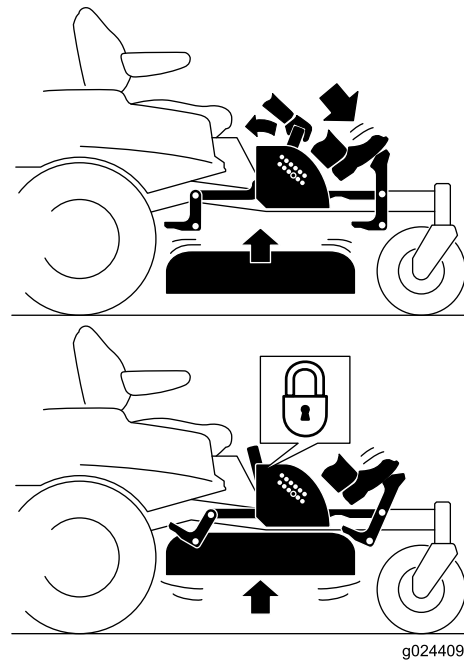

Figure 22
- Press the pedal down to raise the deck; continue to press the pedal until the deck is locked in the transport position (Figure 22).
- Push on the deck-lift pedal with your foot and pull the transport lock handle rearward to disengage the transport lock (Figure 22).
4. Push on the deck-lift pedal with your foot and pull the handle rearward to disengage the transport lock (Figure 22).